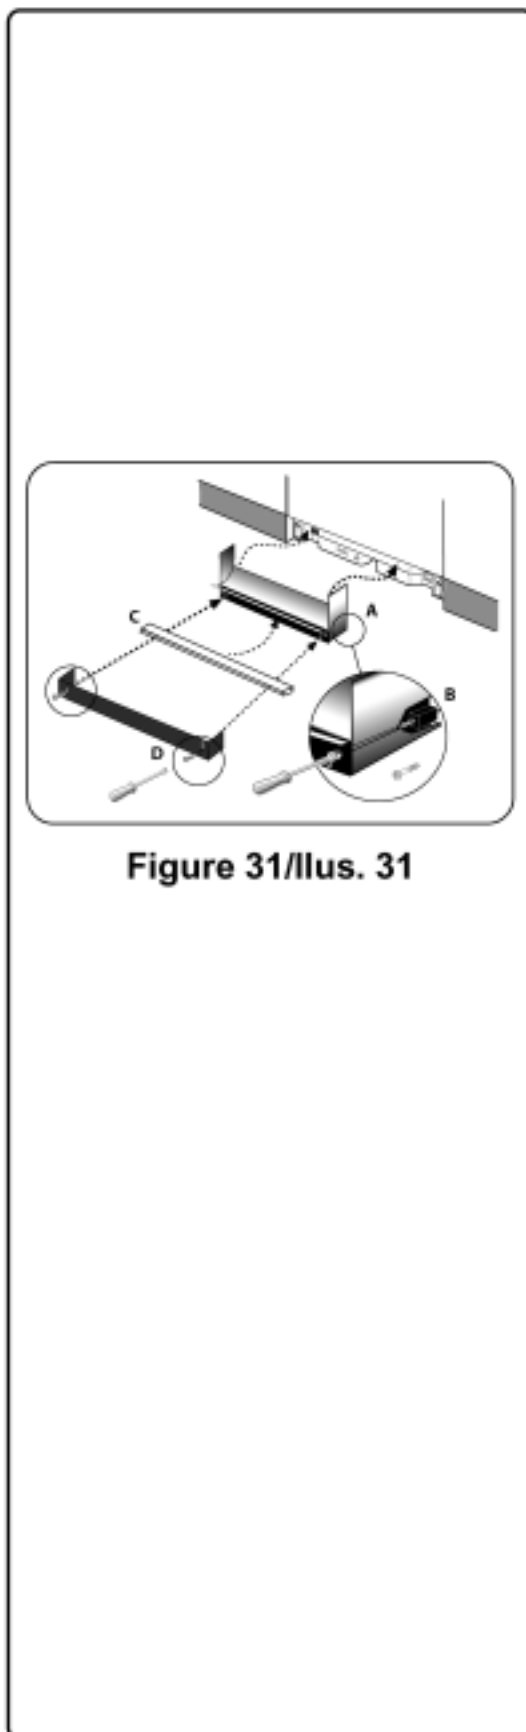

Figure 31/illus. 31
- 1) Place the Base Part under and up the front bottom panel of the dishwasher, as shown in Figure 31.
- 2) Insert the Base Part screws (Figure 1, letter O) into the Base Part, as shown in Figure 31, letter B. Tighten the Base Part Screws.
- 3) Place the Cotton Insulation Strip (Figure 1, letter C) under the unit, between the bottom of the Base Part and the floor, as shown in Figure 31, letter C.
- 4) Place the toe panel over the Cotton Insulation Strip, and use the toe panel screws (Figure 1, letter N) to secure the toe panel in place, as shown in Figure 31, letter D.